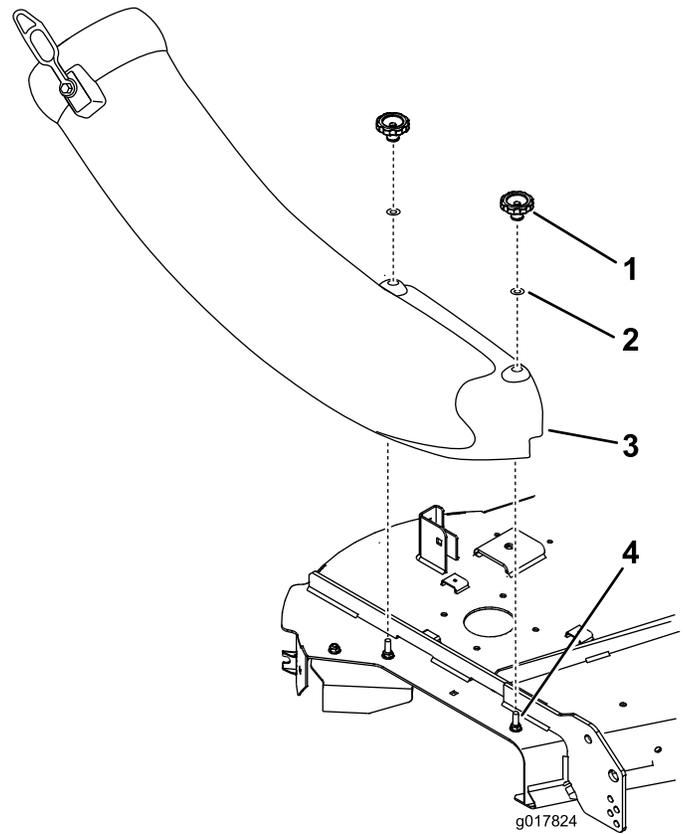

Figure 9
6. Align the holes in the chute and install it onto the bolts. Secure the chute to the mower deck with the two knobs and flat washers (5/16 inch) (Figure 9).